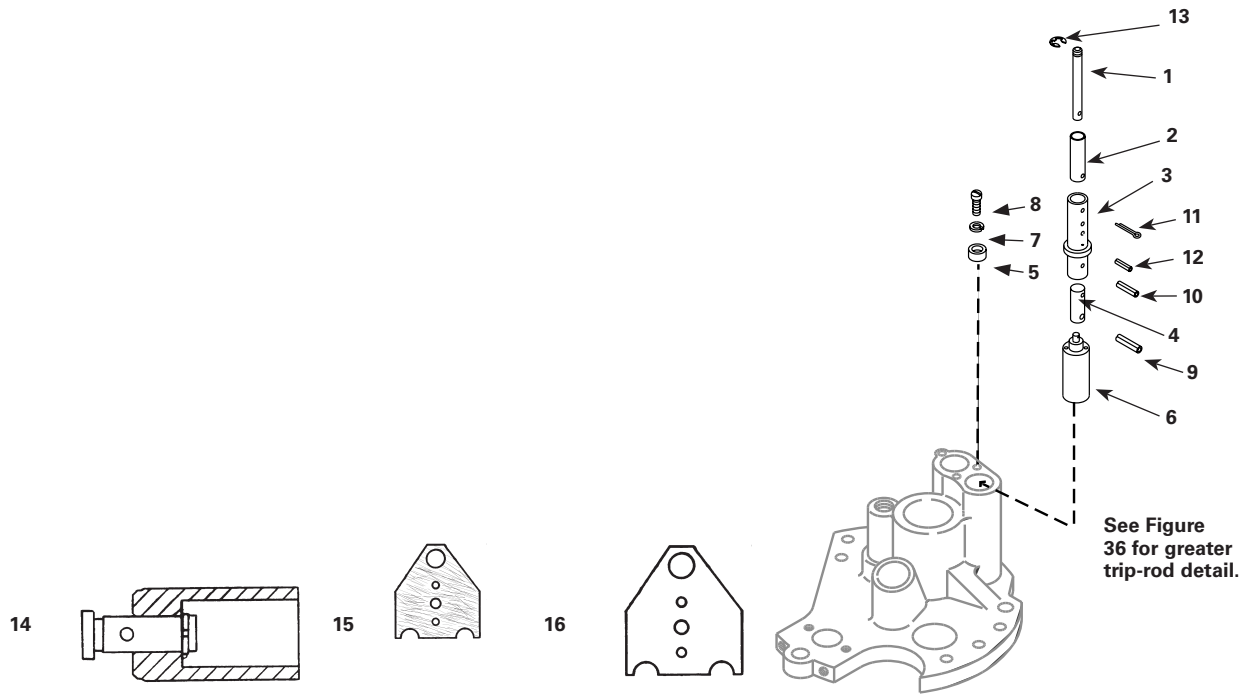
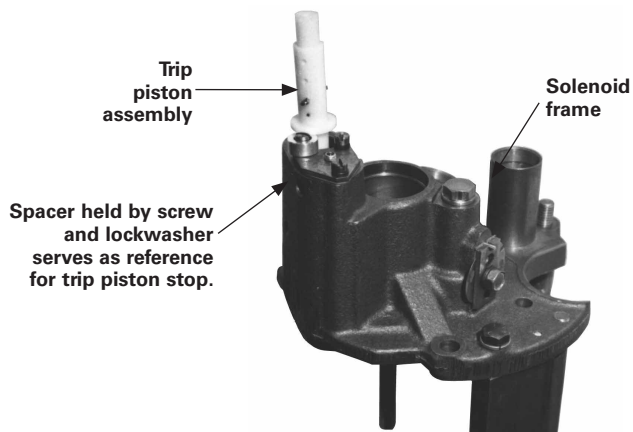

Figure 37. Sequence selector parts. See Table 10 for parts identification
Figure 43. Trip piston stop
2. Refer to Figures 43 and 44. Grasp trip piston assembly and lift until the recloser trips. Observe the roll pin that secures the trip piston to the trip piston adjuster assembly. Note the location of the roll pin relative to the trip adjuster stop (spacer) as shown in Figure 37.
3. The number of operations should match the data plate specifications. If the number of operations does not match, check to see if the recloser is correctly configured. If configuration is correct, adjust the trip linkage (refer to Figures 43 through 45).